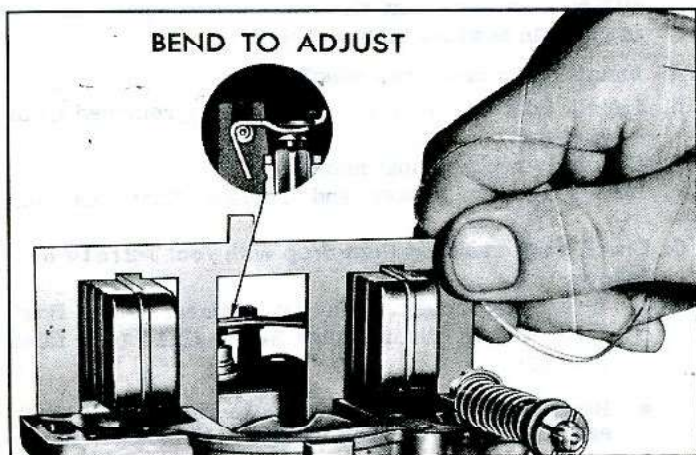

Fig. 22—Checking Float Level
- Invert the cover on a flat surface. Place float level tool in Chain Gauge Set J-21614 over float (fig. 22).